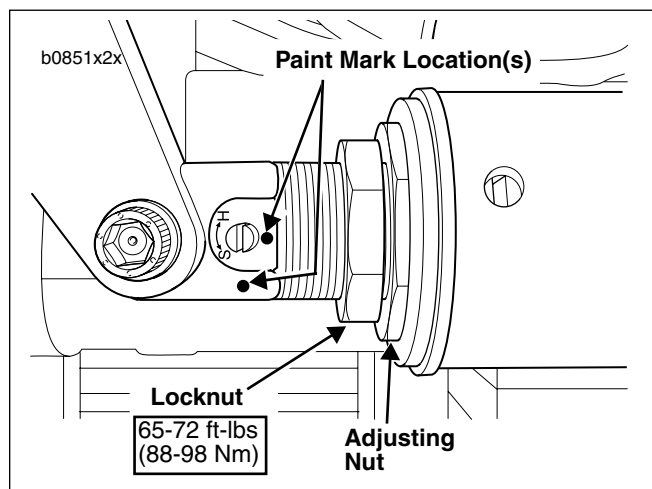

Figure 2. Paint Mark Location(s)/Final Tightening
1. See Figure 2. Inspect shock absorber compression adjuster screw area for BLUE or GREEN paint mark. If no paint mark is found, continue with Step 2.
7. See Figure 2. With a BLUE paint marker, mark shock on aluminum neck, next to the compression adjuster screw. This will identify the shock as having had this procedure performed.